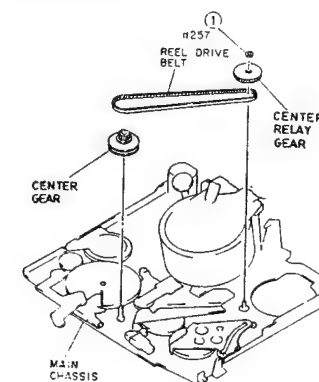

Fig. 2-69
- 1) Remove one (1) washer holding the centre relay gear. (See Fig. 2-69)